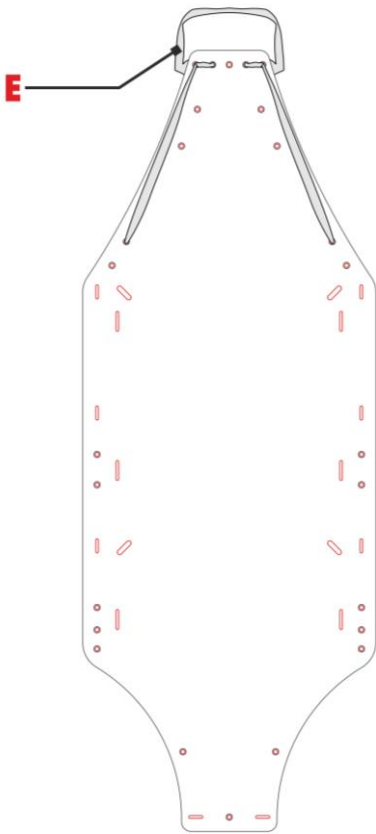

Fig. 9
- a) insert the webbing (E) in the holes A4 of the support surface (fig. 9).